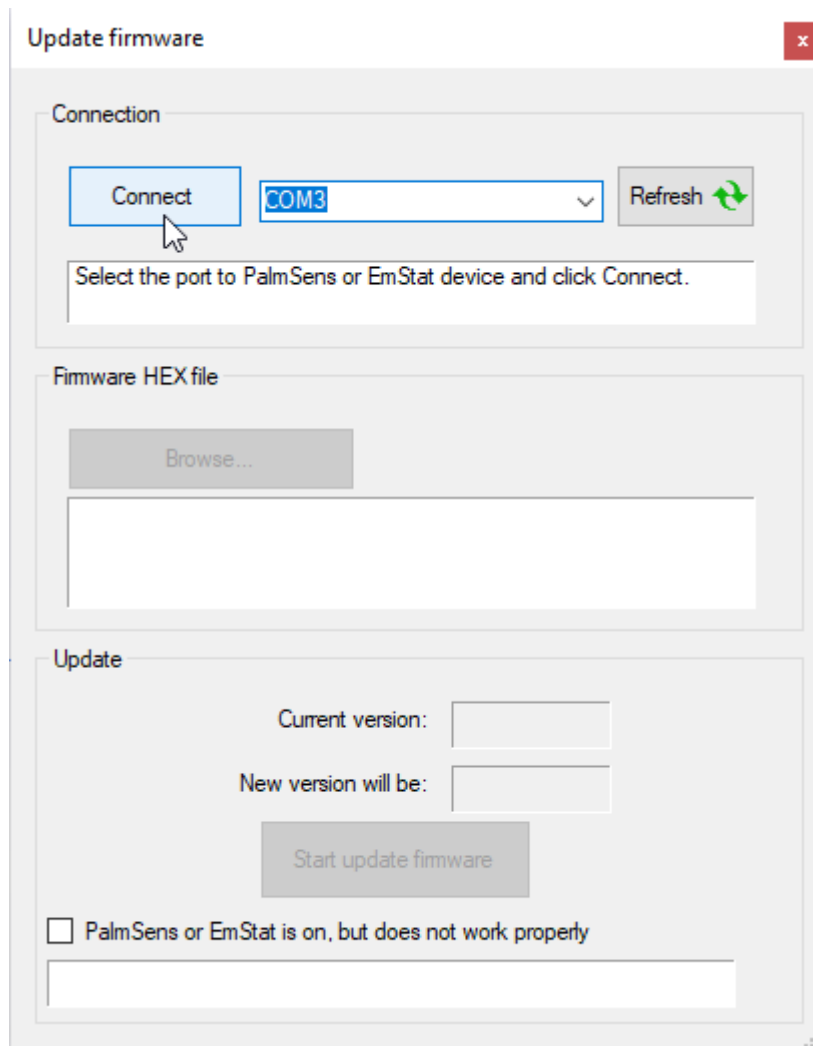

Figure 4: Connect
- Select your device in the connection drop down and press “Connect”. See “Figure 4”.